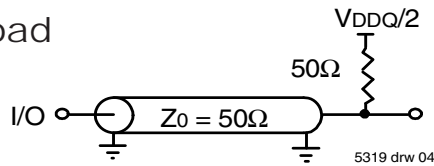

Figure 1. AC Test Load
| Output Load                   | Figure 1      |
3. These parameters are guaranteed with the AC load (Figure 1) by device characterization. They are not production tested.